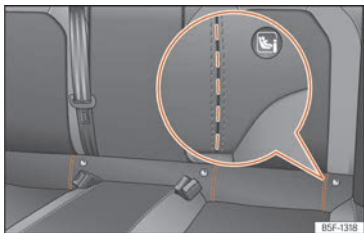

Fig. 32 Rear seat: die cut slots to access the ISOFIX / i-Size securing rings.
floor. The "ISOFIX" rings are located between the rear seat backrest and the seat cushioning »» Fig. 32, »» Fig. 33. The Top Tether rings are located on the rear part of the rear seat »
- Open the cut-out section behind the marked grooves to access the retaining rings »» Fig. 32.